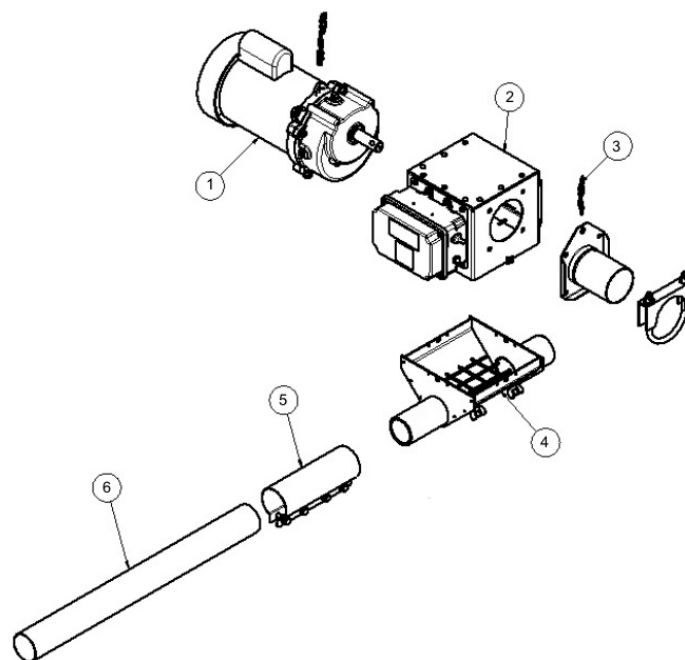

FIGURE 2
2. (Figure 2) Illustrates the installation of the HS693 Control Unit on top of the Chain Disk Fill Hopper
- a. Hang the assembled Control Unit (2) with supporting chains (3) over the Chain Disk Fill Hopper (4)
- b. Connect the Control Unit (2) on top of the Chain Disk Fill Hopper (4).
- c. Attach conveyer tubes (6) to Chain Disk Fill Hopper (4) with the tube couplers (5).